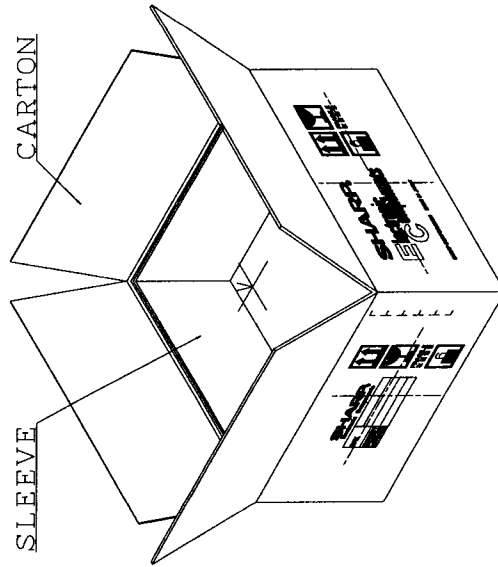

Fig 4: PACKING FORM
- e) Packing form : Packing form is shown in Fig.4